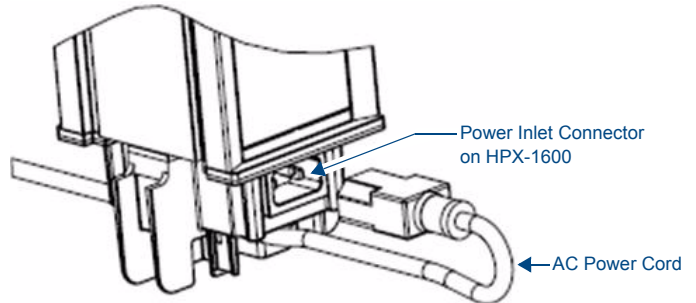

FIG. 2 Hydraport Base Assembly - Power Inlet Cord Removed
**CAUTION!** Ensure that the AC Power cord is disconnected from IEC C-14 power inlet connector on the Hydraport Base Assembly prior to disassembly of the Hydraport Base assembly or installation of a Module (see FIG. 2).